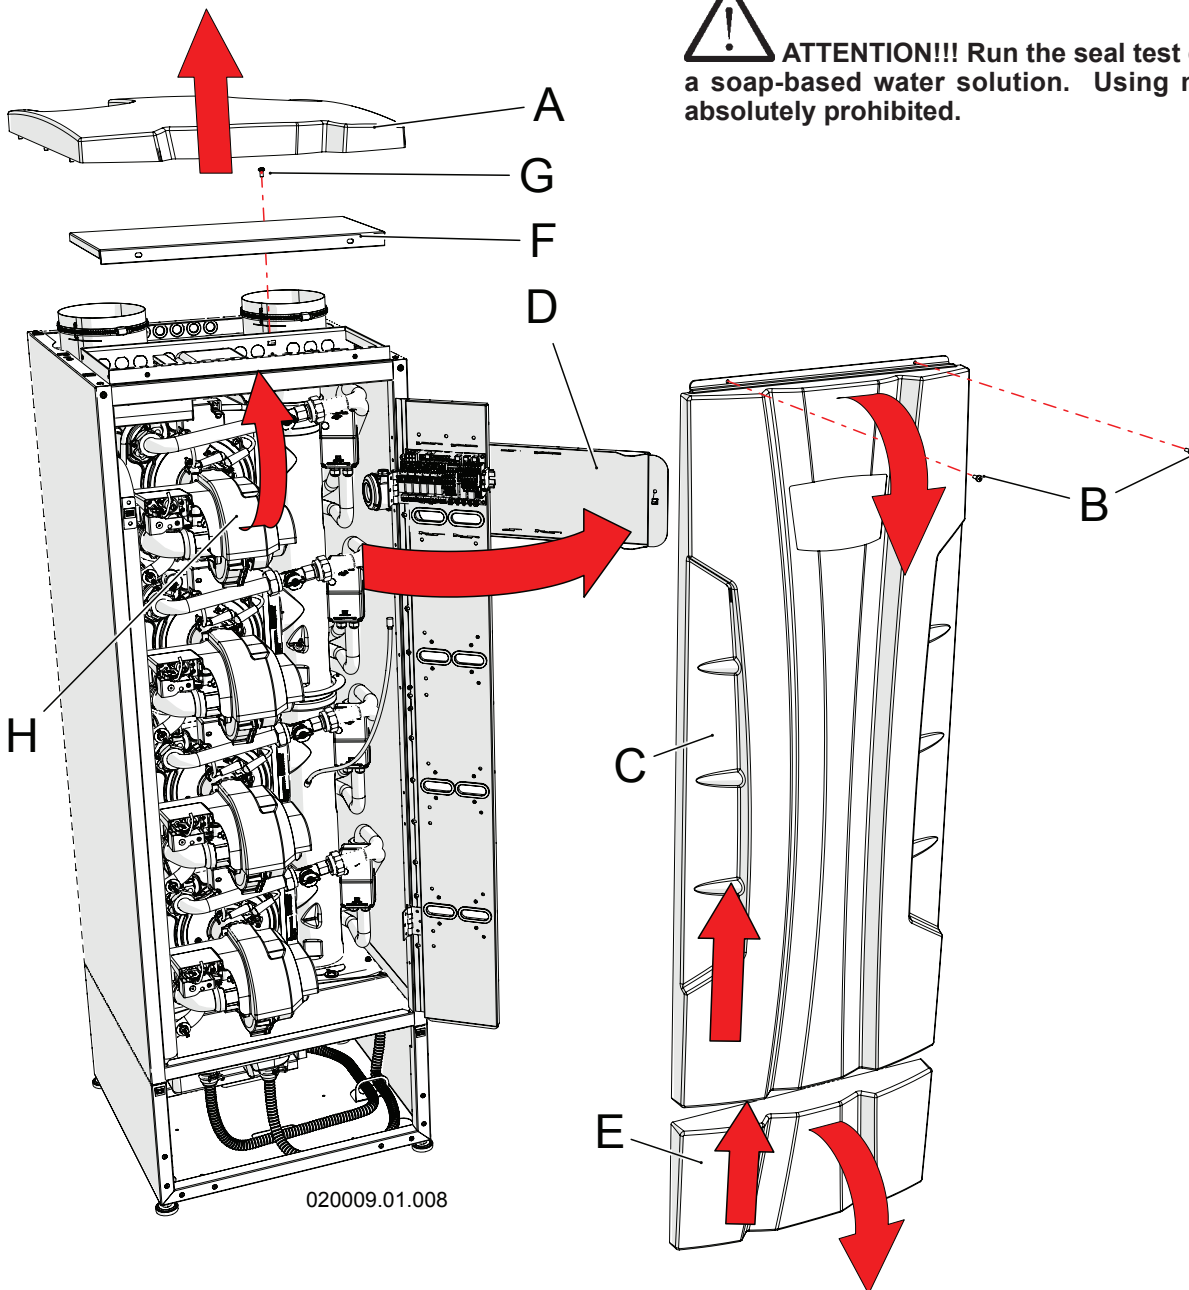

Figure 17-1 - Disassembling the casing and opening the control panel
To disassemble the casing, proceed as follows (refer to figure 17-1):
1. Follow what is shown in section 17.2 to remove covering "E" in figure 17-1;